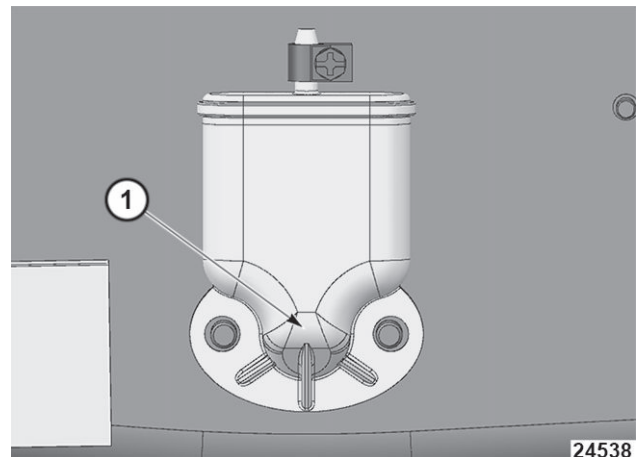

Fig. 13
3. Drain sump or Booster/Holding tank below air trap (1, Fig. 13) inlet.